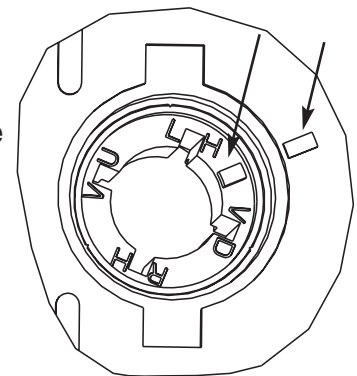

Figure 4
- ① To retract the bolt, the cam must be rotated 4 turns to the right (clockwise) when looking at the back cover of the lock. Use a small flat object, such as a screwdriver to catch the notches for the spline key in order to rotate the cam.
- ② You will need to align the mark on the drive cam to the one on the back cover. See Figure 4.
- ③ Rotate the cam to the left (counterclockwise) until the bolt is retracted (approximately 1/2 turn).
- ④ Holding the bolt in the retracted position, the spindle can now be threaded into the cam without the cam rotating.